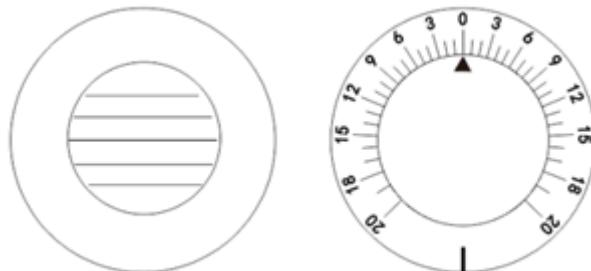
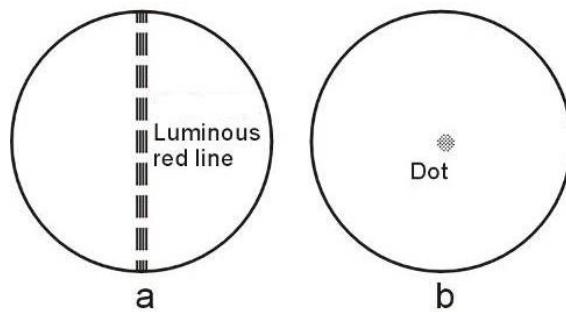
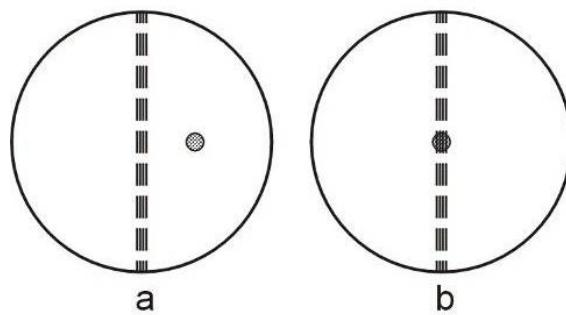
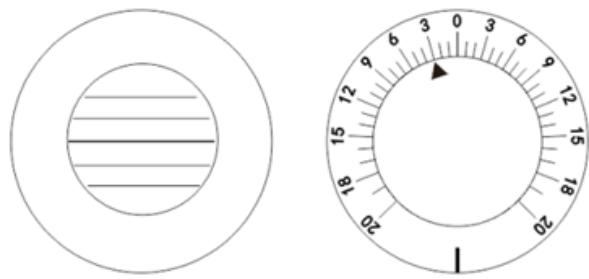

Fig.44
Fig.45
Fig.46
Fig.47
(1) Maddox rod and rotary prism method
- a. First conduct horizontal phoria measurement. Proceed according to (1) rotary prism method described in 6.8.5 Binocular Balance Test. Turn auxiliary lens rotation knob ②1, and set right eye to MRRH (Fig.44). Turn prism rotation knob ①1 with its setting 0 on the triangle symbol facing the left eye. Light a small fixation light at the position where the chart is projected. Now Testee's right eye can see a red vertical line (see Fig.45 a), and his left eye can see a light spot (see Fig.45 b). They are probably (a) or (b) of Fig.46. The light spot will also move when prism rotation knob ①1 is turned. Then ask the patient to tell when he sees the image shown in Fig.46 b. The test result is shown in Fig.47. The prism rotation scale is shown as 2. The result of 2ΔI (base inward) stands for 2